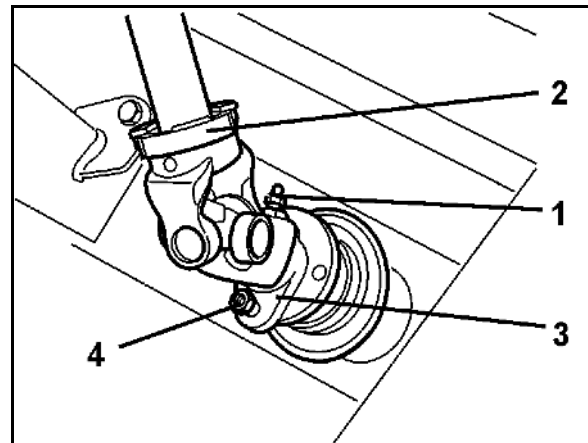

Fig. 96
2. Relieve the springs (Fig. 96/1) by unscrewing the nuts (Fig. 96/2).